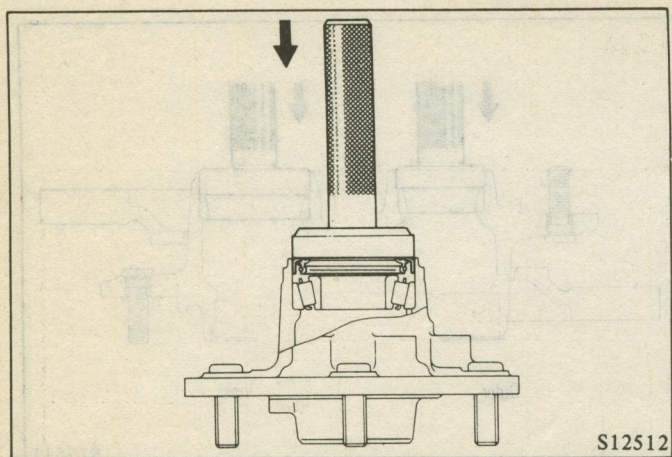

Fig. 16 Driving in the Oil Seal
(3) Install oil seal as shown in Fig. 16. Drive the seal into position on the wheel hub, being careful not to deform the seal.